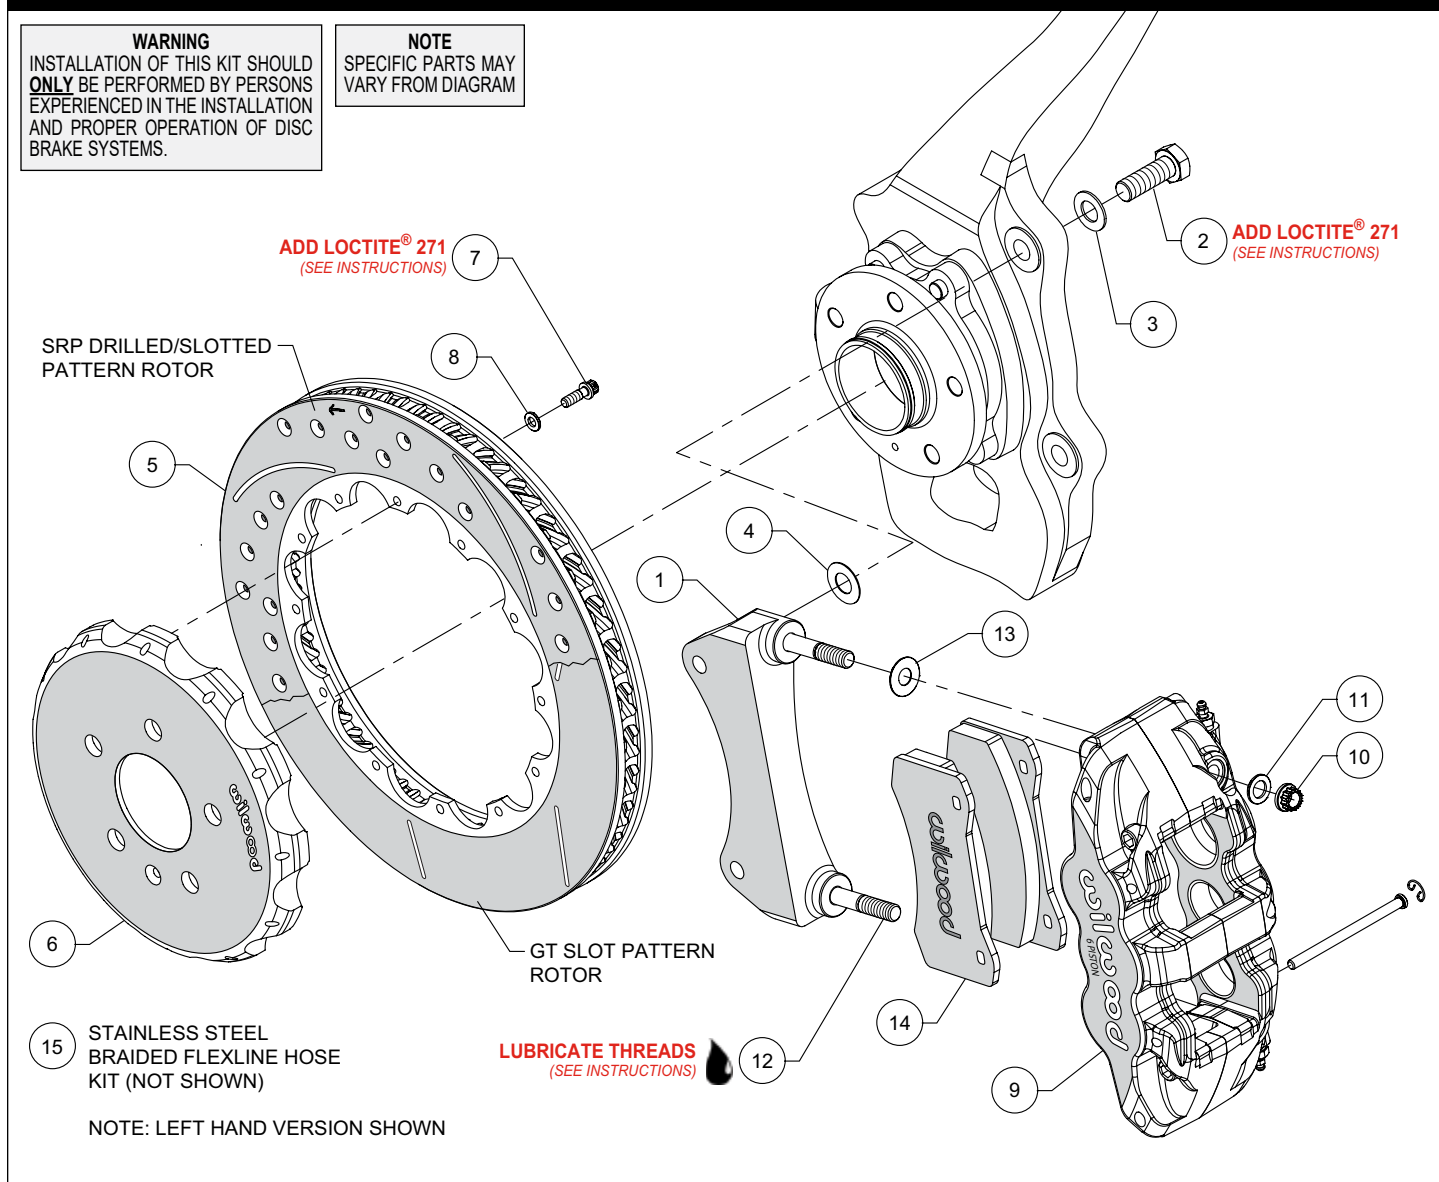
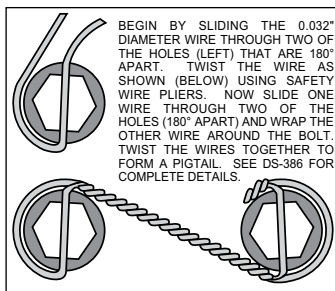

Figure 1. Typical Installation Configuration
Figure 3. Safety Wire Diagram
NOTE: Numbers in parenthesis refer to the parts list and Figure 1 on the preceding pages.
- The caliper mount bracket (1) should initially be installed with clean, dry threads on the mounting bolts. Orient the bracket as shown in Figure 1 and Photo 1, and install using bolts (2) and washers (3). Initially place one .029 thick shim (4) on each bolt between the bracket and upright, Figure 1. Temporarily tighten the mounting bolts. **NOTE:** The bracket must fit squarely against the mounting points on the upright. Inspect for interference from casting irregularities, machining ridges, burrs, etc. Later, after the caliper alignment has been checked, the mount bolts will be secured using red *Loctite*® 271.
- Orient the rotor (5) and the hat (6) as shown in Figure 1 and Photo 2. Attach rotor to hat using bolts (7) and washers (8). Apply red *Loctite*® 271 to the bolt threads and torque to 155 in-lb using a criss-cross pattern. For an added measure of security, the bolts may be safety wired using standard 0.032 inch diameter stainless steel safety wire as shown in Figure 3. Please refer to Wilwood's data sheet DS-386 (available at www.wilwood.com/Pdf/DataSheets/ds386.pdf) for complete safety wire installation instructions.
- NOTE:** This kit contains distinct right and left hand calipers that must be mounted in a specific direction, as described below. Lubricate the caliper mounting studs (12) with lightweight oil. Initially place one .030" thick shim (13) on each stud between the caliper and the bracket, as shown in Figure 1 and Photo 5. Mount the caliper (9) onto the bracket (1) using lock nuts (10) and washers (11), Figure 1. Ensure that the caliper is mounted so the largest pistons are at the rotor exit end of the caliper, in relation to the direction of rotor rotation. Temporarily tighten the lock nuts and view the rotor through the top opening of the caliper. The rotor should be centered in the caliper, Photo 6. If not, adjust by adding or subtracting shims (4) between the bracket and the upright. Always use the same amount of shims on each of the two mounting bolts. Once the caliper alignment is correct, remove the bracket mounting bolts (2) one at a time, apply red *Loctite*® 271 to the threads, and torque to 105 ft-lbs.
- Remove the two pad retaining pins from the caliper (9) by carefully popping out the pin retaining clips and sliding out the pins. Insert the brake pads (14) into the caliper from the bottom, Figure 1 and Photo 7. With the friction material facing the rotor, secure the brake pads in place with the pad retaining pins and clips, Photo 8. Reinstall the caliper onto the caliper mounting bracket and temporarily tighten the lock nuts (10). Check that the top of the brake pad is flush with the outside diameter of the rotor, Photo 9. If not, adjust by adding or subtracting shims (13) between the caliper and the bracket. After the caliper pad height is set, torque the caliper lock nuts (10) to 47 ft-lb.